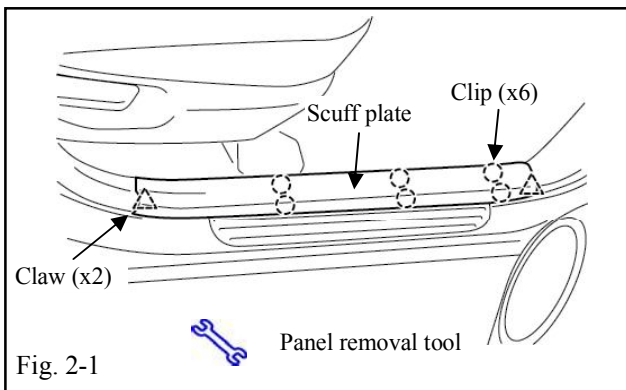

Fig. 2-1
(a) Disengage two (2) claws and six (6) clips and remove the right side front door scuff plate. (Fig. 2-1)